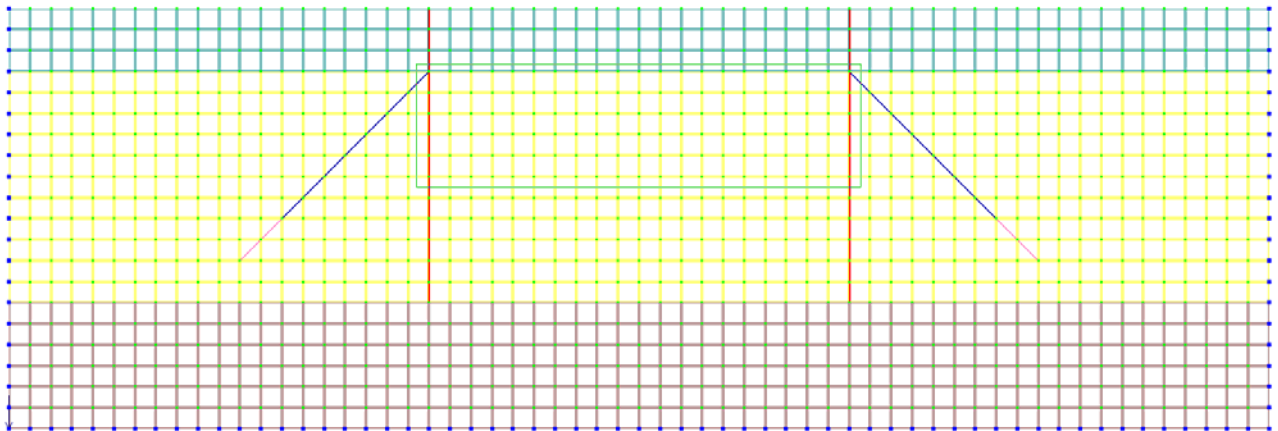

Figure 10.22 How to select elements of the 2nd layer of foundation inside the sheet piling
- ⇒ With the pointer, select elements 5 top rows of elements of the 2nd layer of foundation inside elements of sheet piling. To do this, just drag the pointer (selection window) from left to right as shown in Fig. 10.22.